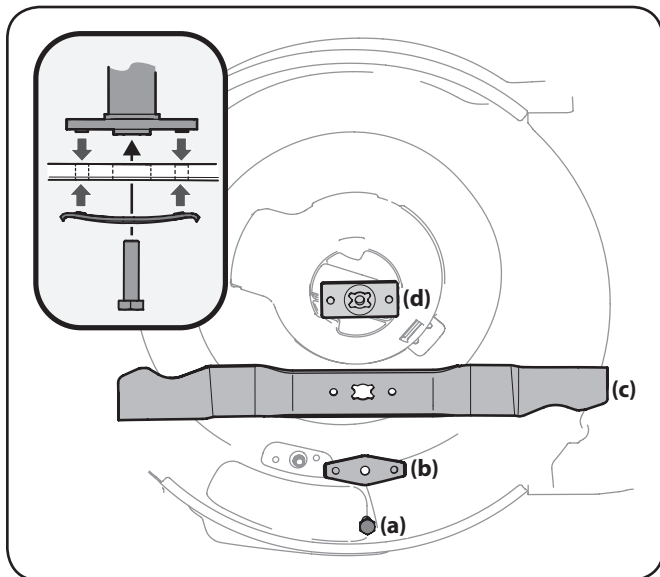

Figure 7-1
3. Remove the bolt (a) and the blade bell support (b) which hold the blade and the blade adapter to the engine crankshaft. See Figure 7-1.
4. Remove blade (c) and adapter (d) from the crankshaft. See Figure 7-1.
operating position. Make sure that the blade is aligned and seated on the blade adapter flanges. See Figure 7-1 inset.